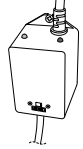

FIGURE 8
20. Once power is activated you can check the ballast (12), Figure 8, to see if the ClearRay Active Oxygen™ System is functioning; it has two LED indicator lights the green indicating incoming power flow and the red indicating the system is properly working.